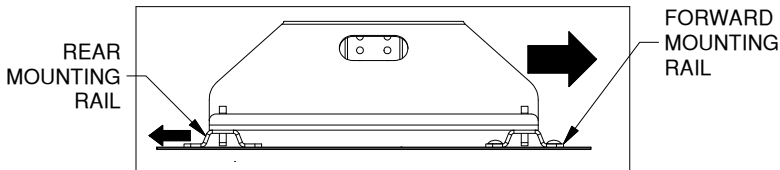

Figure C2: Side view of RV base and mounting rails.
**IMPORTANT:** Before drilling rear mounting holes pull the RV base towards the cab of the truck and push the rear rail towards the rear of the truck to correctly space the mounting rails, see Figure C2.